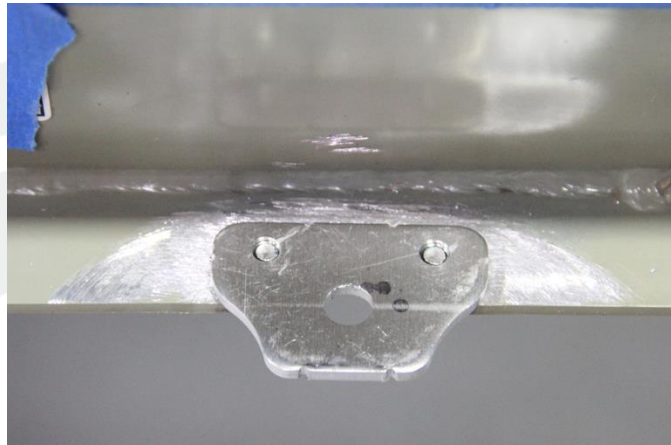

Figure 9
12. Test fit the new aeroshield support tab to ensure that it fits properly (Figure 9). Remove the aeroshield support tab.